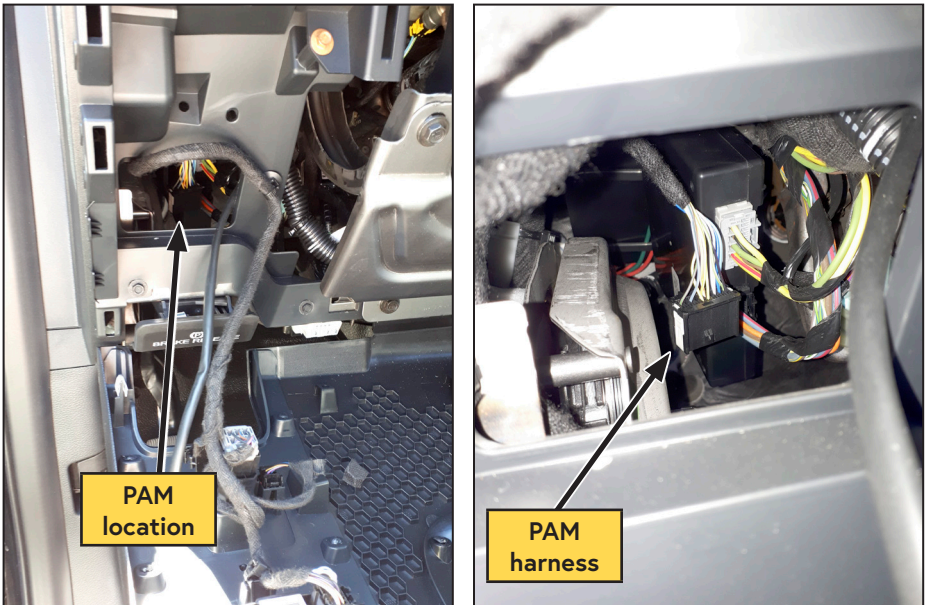

Figure 36 — Parking Assist Control Module (PAM)
- Locate the Parking Assist Control Module (PAM) (located on the driver side, under the dashboard and above the parking brake). The PAM harness will either be plugged into a blanking plug, or a PAM module (Figure 36).